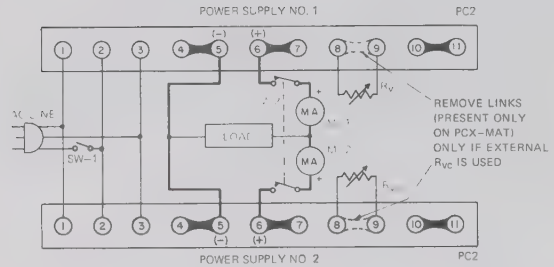

FIG. 3-13 PARALLEL CONNECTION OF PCX-MAT SUPPLIES
3-45 PROCEDURE (Refer to FIG. 3-13)
- Connect units as shown in FIG. 3-13. Operate SW-1 and SW-2 and connect to AC input source.